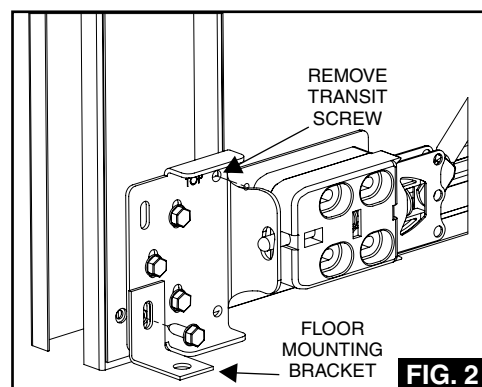

FIG. 2
3. Refit transit screws (No. 14 x 1/2") to secure door to frame (See Fig 2).
6. Remove floor brackets (See Fig 2) and wall mounting brackets. This will allow removal of door/frame unit.
6. Fit floor brackets to frame using 1 off No. 14 x 1" self tapping screws (See Fig 2). Fix floor brackets to floor using M8 x 50mm coach screw and M8 washer. Use suitable wall plugs (See Note A).
7. Remove transit screws securing door panel to lower latch keep. (See Fig 2).